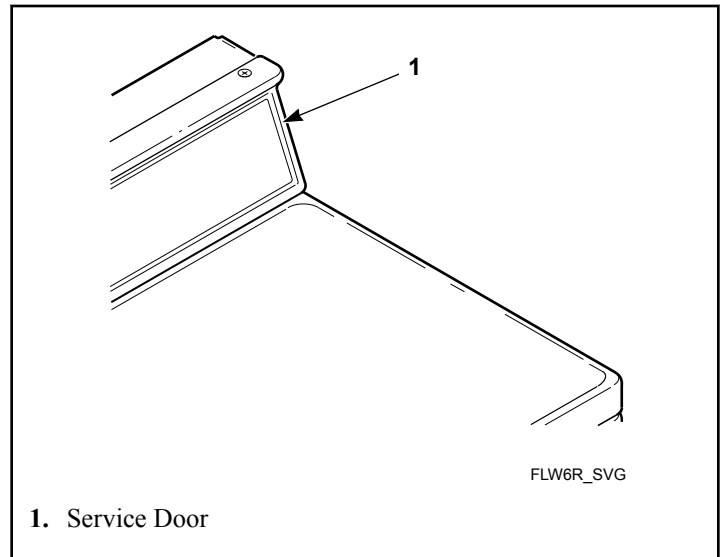

Figure 2
1. Open service door. Refer to *Figure 2*.